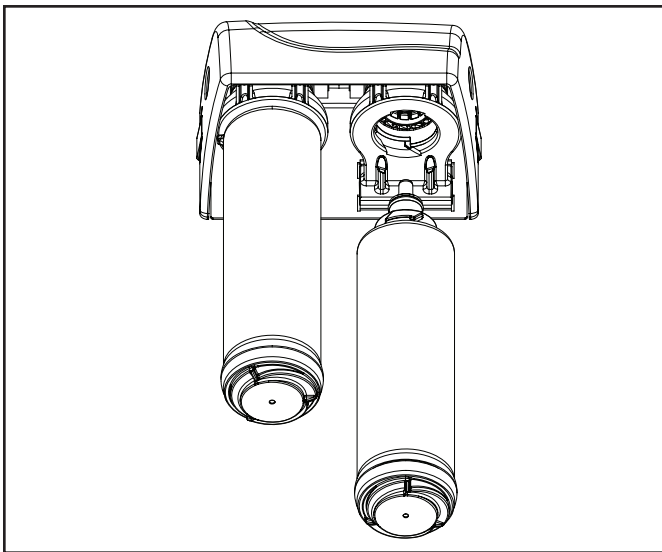

Figure 8
- B) Place hand on filter head assembly to steady the system. Line up the blade on the cartridge with the slot in the head. Slide the cartridge filter up into the head assembly until it can go no further. Rotate the cartridge clockwise 1/4-turn until the cartridge snaps into place. Gently pull down on the cartridge to be certain the cartridge is locked in place. (Figure 8)